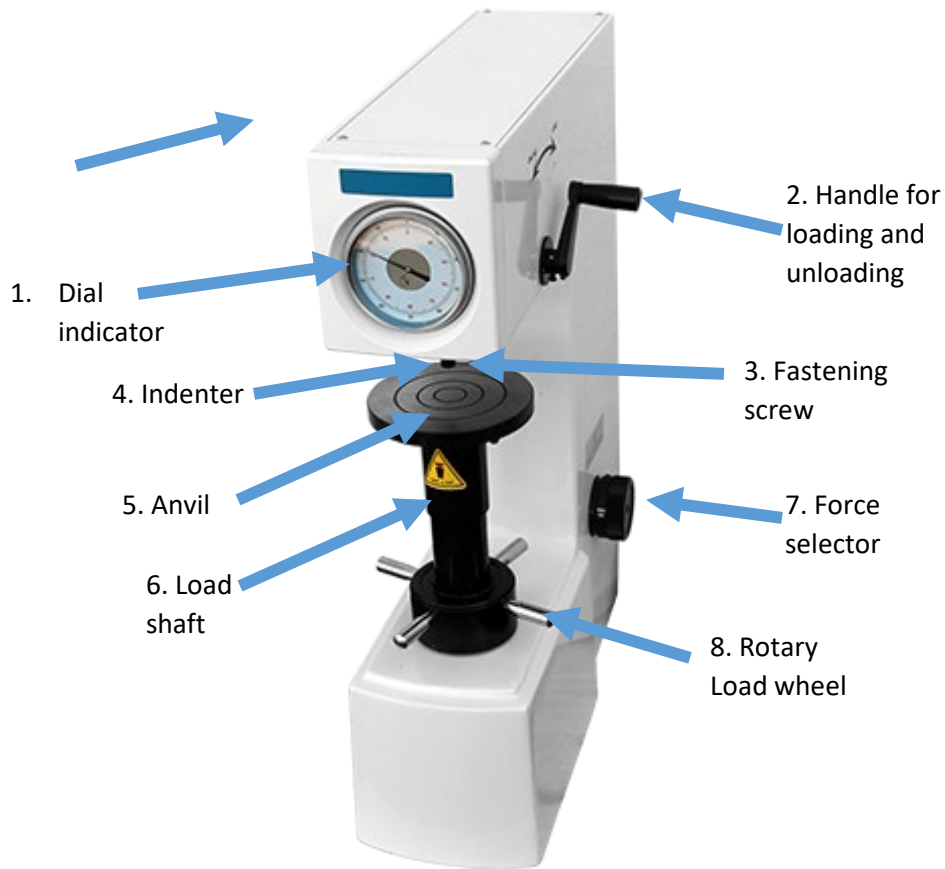

Fig. 2
3.2.4 After the hardness tester is properly placed (Fig.2), open the Upper Cover (10) and the Back Cover (9). Untie the fastening rubber tape (Fig.13) on the Connecting Rod (23) and draw out the foam block under Protecting Gasket (26) and Lever (16). Untie all the white gauze on moving parts and then cover the tester to keep clean and free of dust.
- a. Ensure the "Load apply" handle (2, Figure 2) is set to the unloading position.